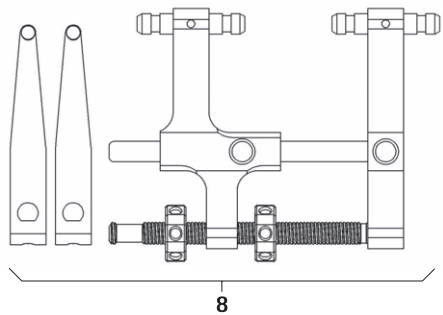

Fig. 13
- Mount distractor 8 with the distraction blades, see Fig. 13.